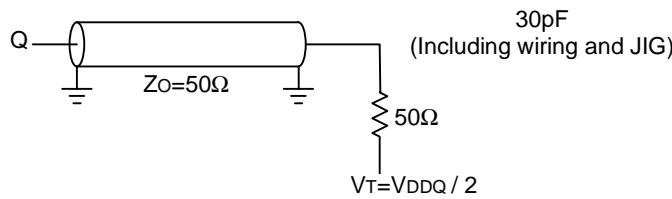

Fig.1 Output load
**(1) MEASUREMENT CONDITION**
- Output load ..... Fig.1
Note33. Test conditions is specified with the output loading shown in Fig.1 unless otherwise noted.